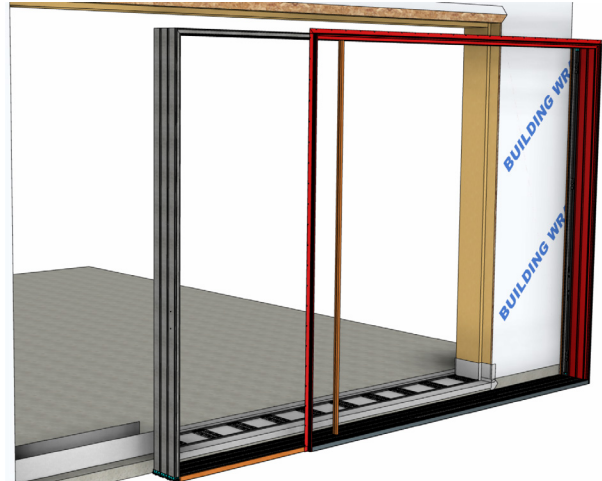

Fig PKT 2
- Stand the frame up next to the rough opening with the story pole in place (Fig. PKT 2).